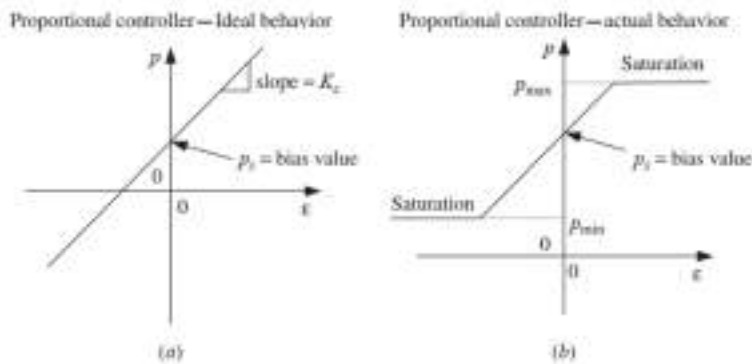

FIGURE 9-6
- The actual behavior of a proportional controller is depicted in Fig. 9-6. The controller output will saturate (level out) at $p_{\max} = 15$ psig or 20 mA at the upper end and at $p_{\min} = 3$ psig or 4 mA at the lower end of the output. The ideal transfer function Eq. (2) does not predict this saturation phenomenon.